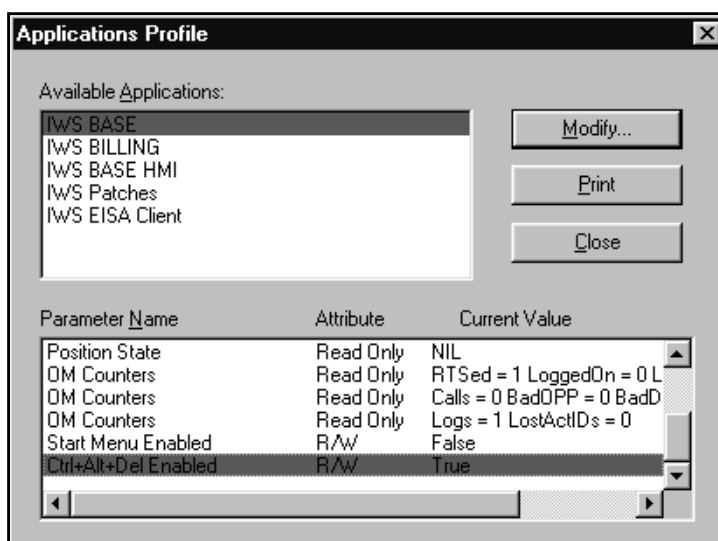

FIGURE 86. Ctrl+Alt+Esc Enabled
- a. Use the down arrow key to highlight the name IWS BASE in the Available Applications box. An example window is shown in Figure 86.
With Ctrl+Alt+Esc Enabled set to true as shown in Figure 86, the Ctrl+Alt+Del command at the target position can be used to open a Close Program window from the IWS logo window. This parameter needs to be set to false to disable it.